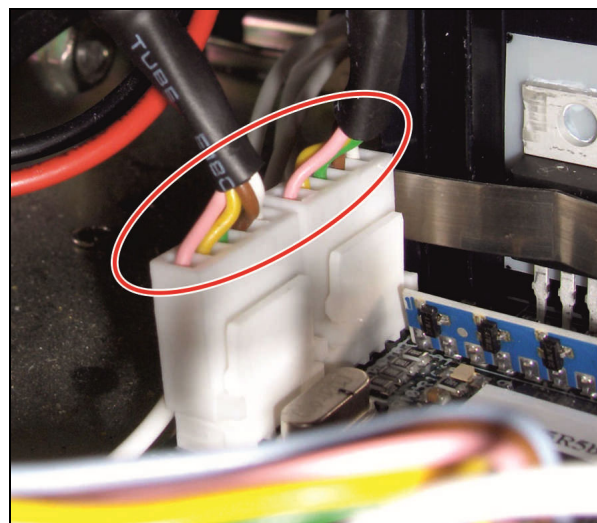

Figure 9
- (5) Ensure that there is no stress on the encoder wires on DMC board side. See Figure 9.
- (6) Mount new tie wraps for the rerouted encoder cables.